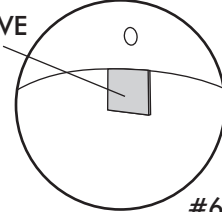

FIGURE 6a
- REMOVE TAB FROM KICK PANEL AS SHOWN IN FIGURE 6a.